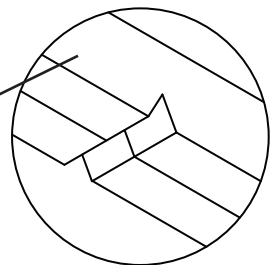

Fig. 2
- 2) Hold interconnect cable to mounting surface and determine best path for cable. If interconnect cable is being run from cabinet to cabinet a notch such as a "V" could be cut in cabinet side panels to help keep cable out of sight. (Ref. Fig. 2)